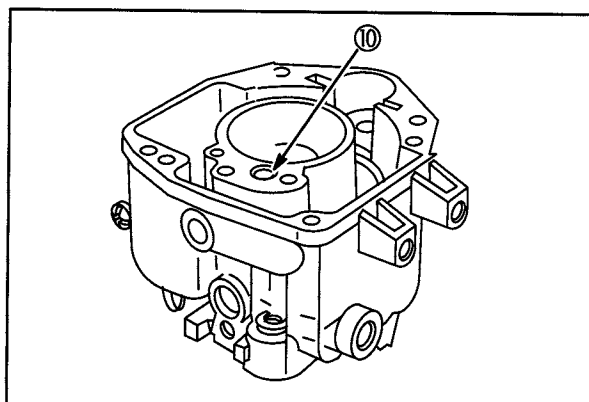

Fig. 81
7. Remove pilot jet (10) using Screwdriver #19061, Fig. 81.